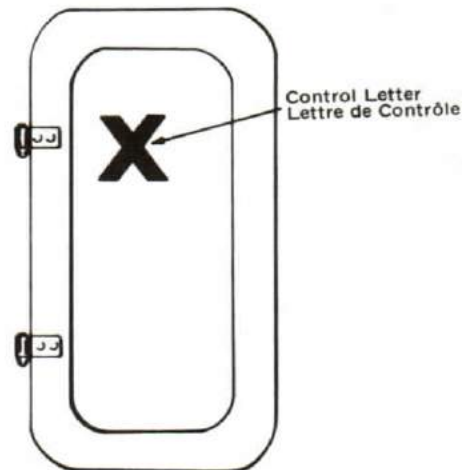

Figure 8-19
8. La lettre "X" en rouge signifie qu'avant d'ouvrir la porte ainsi marquée, il faut obtenir l'autorisation de l'officier de service ou celle du poste de commandement NBCD (le PC 1). Une sentinelle y sera d'ailleurs de faction pour refermer la porte chaque fois qu'on l'ouvrira (voir la figure 8-19).
12. These control markings also apply to hatches and ventilation openings and if the control markings are observed, make a ship ready for almost any damage it may sustain; but when the damage does come, it must be discovered quickly, and something must be done about it. For this reason, there is an organization in the ship to cope with damage, to keep the ship from sinking and keep her upright. See Figure 8-19.